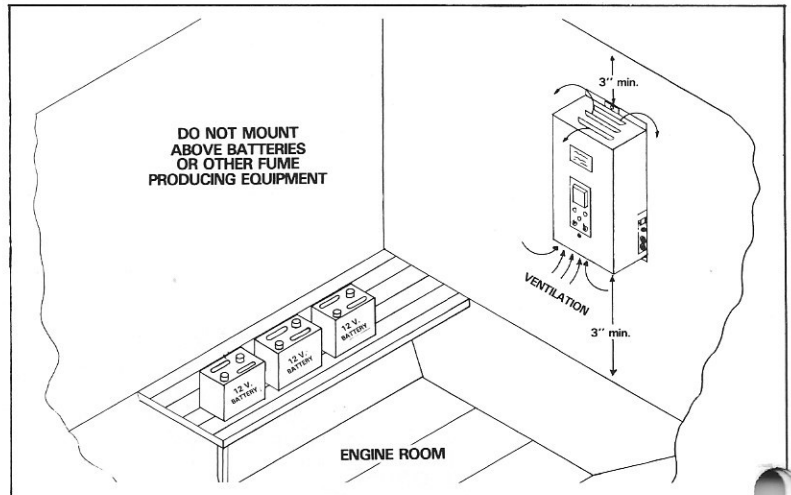

Figure 4. Mounting Your Sentry Charger.
1. Select a dry, well-ventilated area, near, but not above batteries. Mount in a vertical position, to create a natural ventilation for cooling the unit. Note that the wire connections are at the bottom of the unit. Leave at least three (3) inches clearance above and below the unit for proper ventilation. **See Figure 4.**